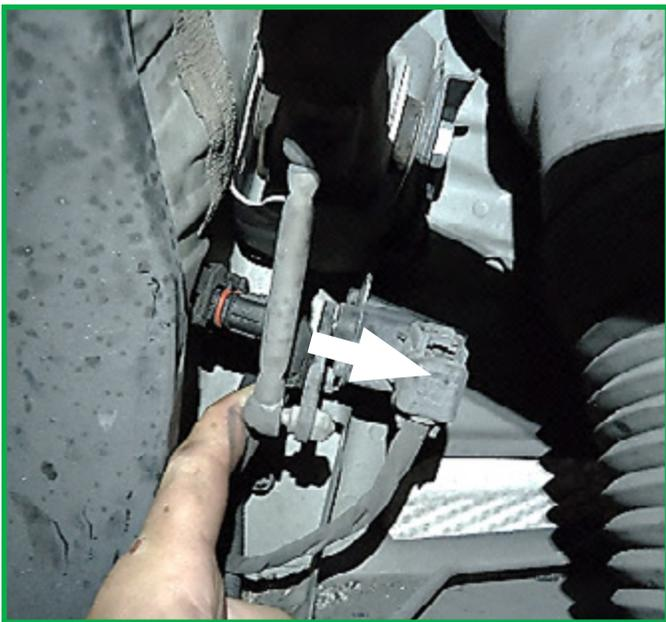

FIGURE 6
5. Disconnect and separate the two (2) electrical connectors. (Figures 6, 7)